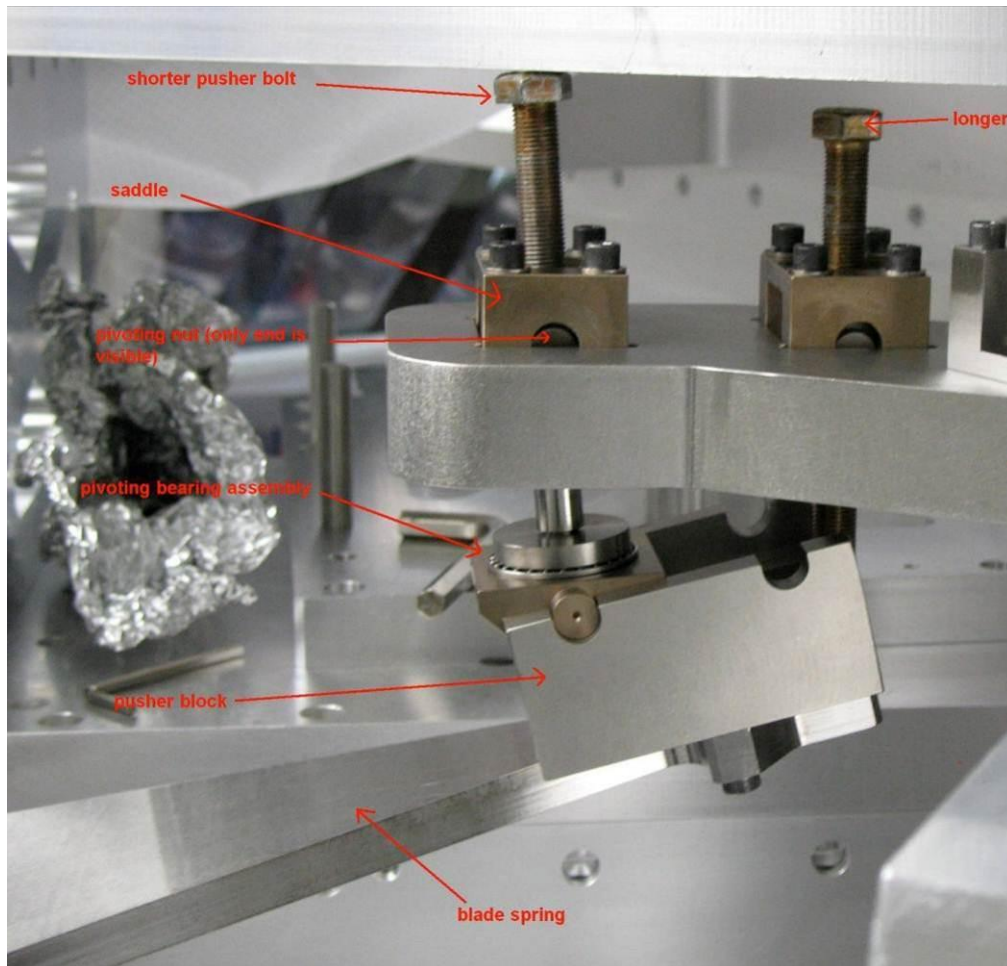

Figure 125: D0902464 Stage 0-1 Blade Pusher (LASTI 2007)
1.76. Thread D0902594 Threaded Pivot onto each D0902599 Blade Pusher Bolt and place it in D0902200 Top Saddle on Bracket as shown on Figure 125.
(8) 1/4-20 x 1.75" SHCS – MSC 75464461
- Place D0902483 Saddle on Large Blades to D0901541 Stage 0-1 Spring Blade tip (see Figure 125).
- Attach it in place with (2) 1/4-20 x 1.75" SHCS going up through D0901541 Stage 0-1 Spring Blade into D0902488 Tooling Bracket.
- Snug these (2) screws.
1.78. Place the 1st D0902593 Pusher Pivot Assembly in D0902483 Saddle on Large Blades near the shorter D0902599 Blade Pusher Bolt as shown on Figure 125. The tip of D0902599 Blade Pusher Bolt should be placed into D0902593 Pusher Pivot Assembly.